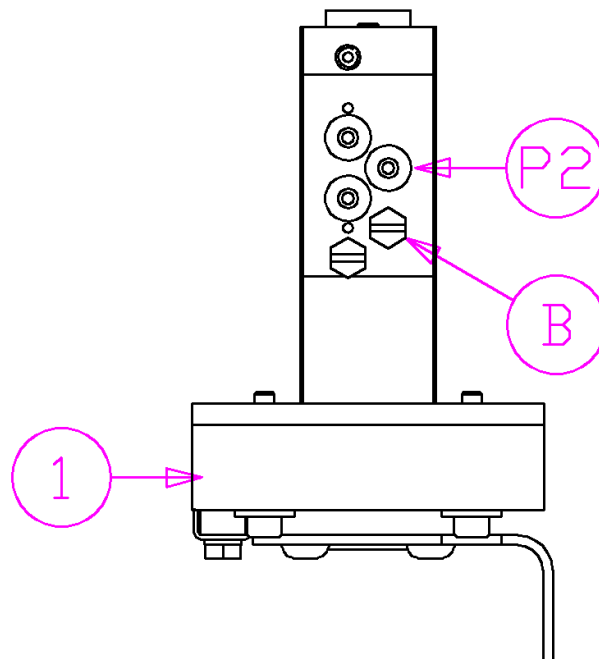

Fig.GEN-05
- The precision bleed is fitted in the B port as per Fig.GEN-05.